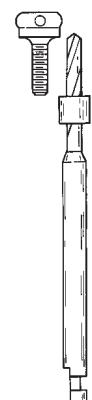

Fig. 1
4. Set the plastic Depth Reference Ring on the Pilot Drill (Zest order No. 8924) to a depth slightly exceeding the length of the female post. (Fig. 1) The post can be shortened if desired.